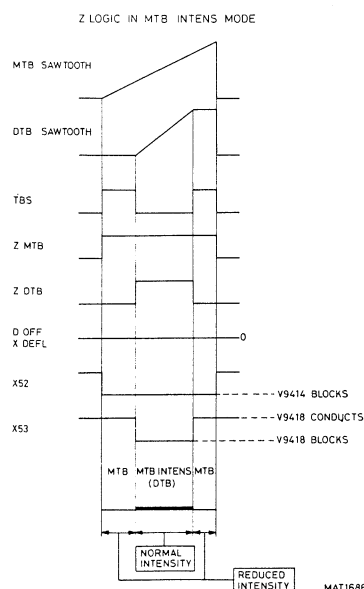

Fig.15.6. Voltage waveforms in Z logic in MTB INTENSified mode.
In MTB INTENS mode the intensity of the MTB part is reduced (see fig. 15.6) and the DTB part has normal intensity. The logic levels in this mode are given in fig.15.7. One part, MTB and DTB on together, is described. At the moment that the MTB and DTB are on, both Z MTB and Z DTB are high. With Z MTB and TBS (MTB on) both high, the inputs of AND-gate D9402-(4 and 5) are high. This gives a high output (2) which is fed to input 5 of MTB NOR-gate D9403. Therefore a low output is supplied to the base of V9414 (X52).